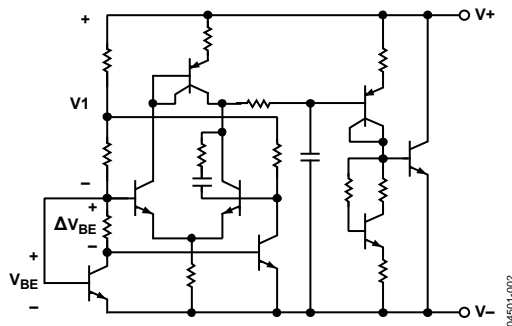

Figure 14. Circuit Schematic
The ADR525/ADR530/ADR550 use the band gap concept to produce a stable, low temperature coefficient voltage reference suitable for high accuracy data acquisition components and systems. The devices use the physical nature of a silicon transistor base-emitter voltage (V_{BE}) in the forward-biased operating region. All such transistors have approximately a $-2 \text{ mV}/^\circ\text{C}$ temperature coefficient (TC), making them unsuitable for direct use as low temperature coefficient references. Extrapolation of the temperature characteristics of any one of these devices to absolute zero (with the collector current proportional to the absolute temperature), however, reveals that its V_{BE} approaches approximately the silicon band gap voltage. Thus, if a voltage develops with an opposing temperature coefficient to sum the V_{BE} , a zero temperature coefficient reference results. The ADR525/ADR530/ADR550 circuit shown in Figure 14 provides such a compensating voltage (V_1) by driving two transistors at different current densities and amplifying the resultant V_{BE} difference (ΔV_{BE} , which has a positive temperature coefficient). The sum of V_{BE} and V_1 provides a stable voltage reference over temperature.